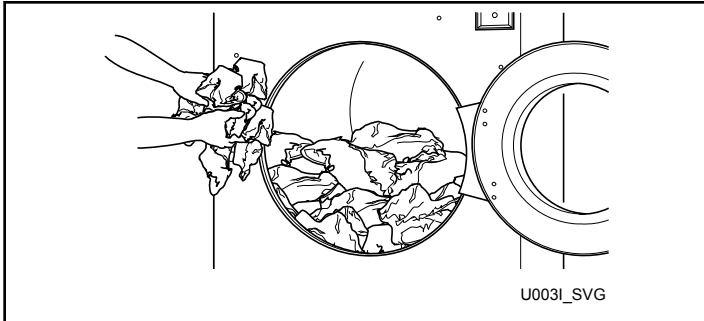

Figure 30
3. Load to capacity whenever possible. DO NOT OVERLOAD. Refer to *Figure 30*.